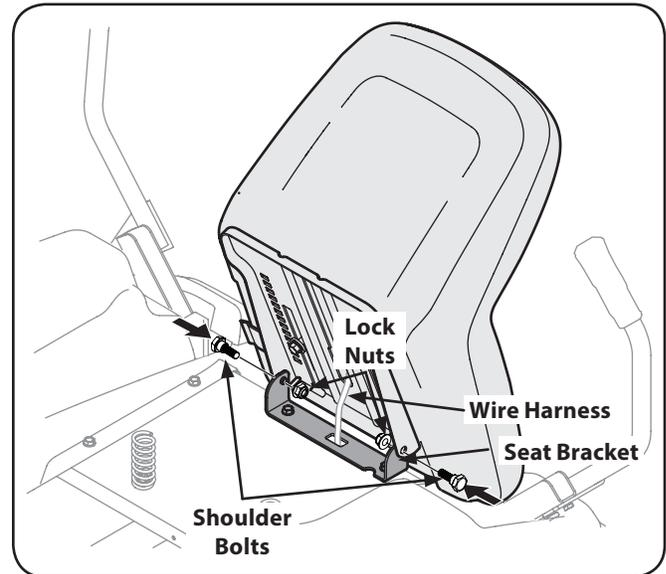

Figure 3-5
3. Rotate the seat into position and secure the seat into place with the previously removed shoulder bolts and lock nuts. Be careful not to crimp or damage the wire harness while installing the seat. See Figure 3-5.